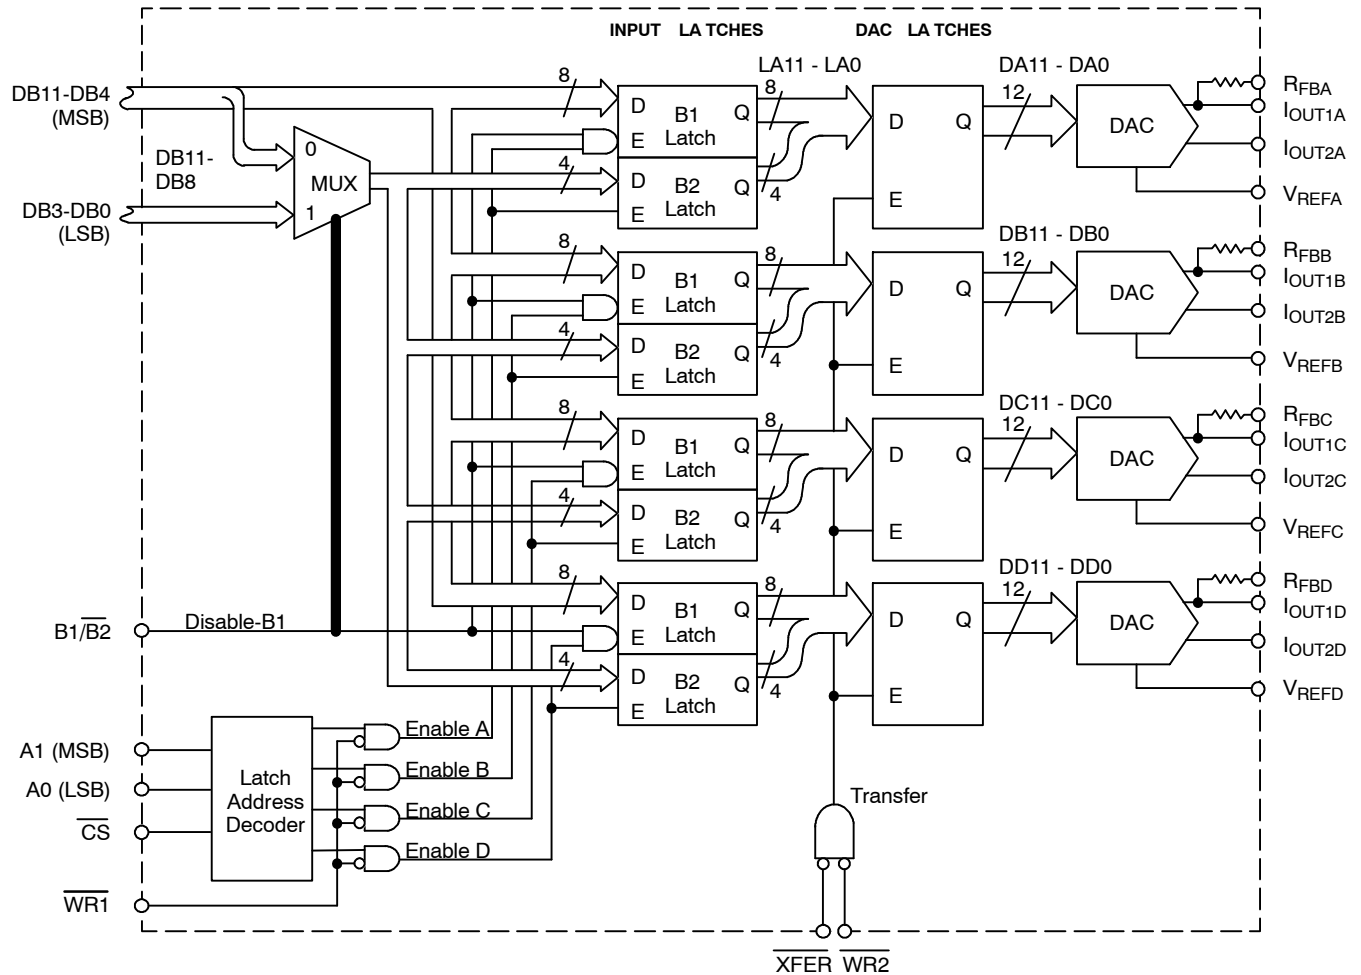
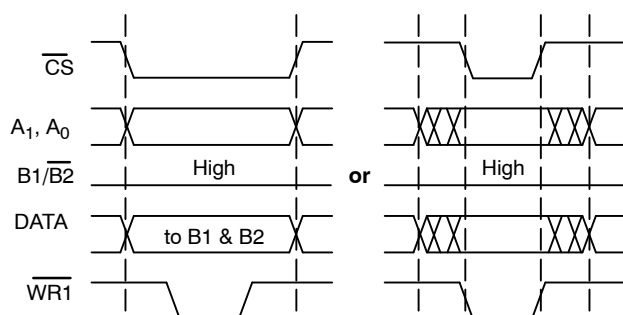
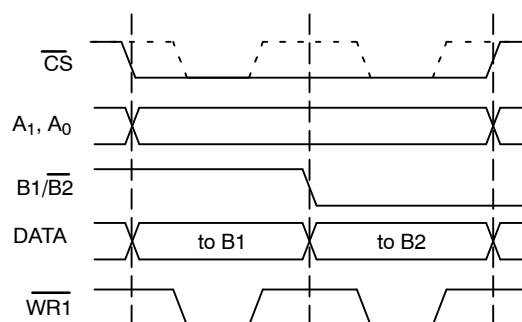

Figure 3. Latches Control Logic
Figure 4. 12 Bit Write Cycle
Figure 5. 8-Bit Double Write Cycle
Figure 3. shows the internal control logic. The logic that controls the writing of the input latches and the one that controls the DAC latches are completely separated. It is easy to understand how the MP7680/80A works by understanding each basic operation.
By keeping $B1/\overline{B2} = \text{high}$, a 12-bit bus has direct access to the 12 bits of the input latches. The condition $\overline{CS} = \overline{WR1} = 0$ loads the values contained in the data bus DB11-DB0 into the input latch addresses by A_1 , A_0 (Figure 4., Table 1.).
(Figure 5.) During the second cycle the condition $B1/\overline{B2}$ = low muxes DB11-DB8 to the B2 latches (Figure 3.).
- 1) Timing diagrams show the inputs $\overline{CS}$, A_1 , A_0 , DB11-DB0 to be stable during the entire writing cycle. In reality all the above signals can change (Figure 4.) as long as they meet the timing conditions specified in the Electrical Characteristic Table.
- 2) Only 16-bit bus cycles are shown in the next few examples of interface timing. It is possible to generate an 8-bit interface timing by replacing a single 12-bit write cycle (Figure 4.) with a double 8-bit write cycles (Figure 5.) 8-bit applications should ground inputs DB3-DB0.